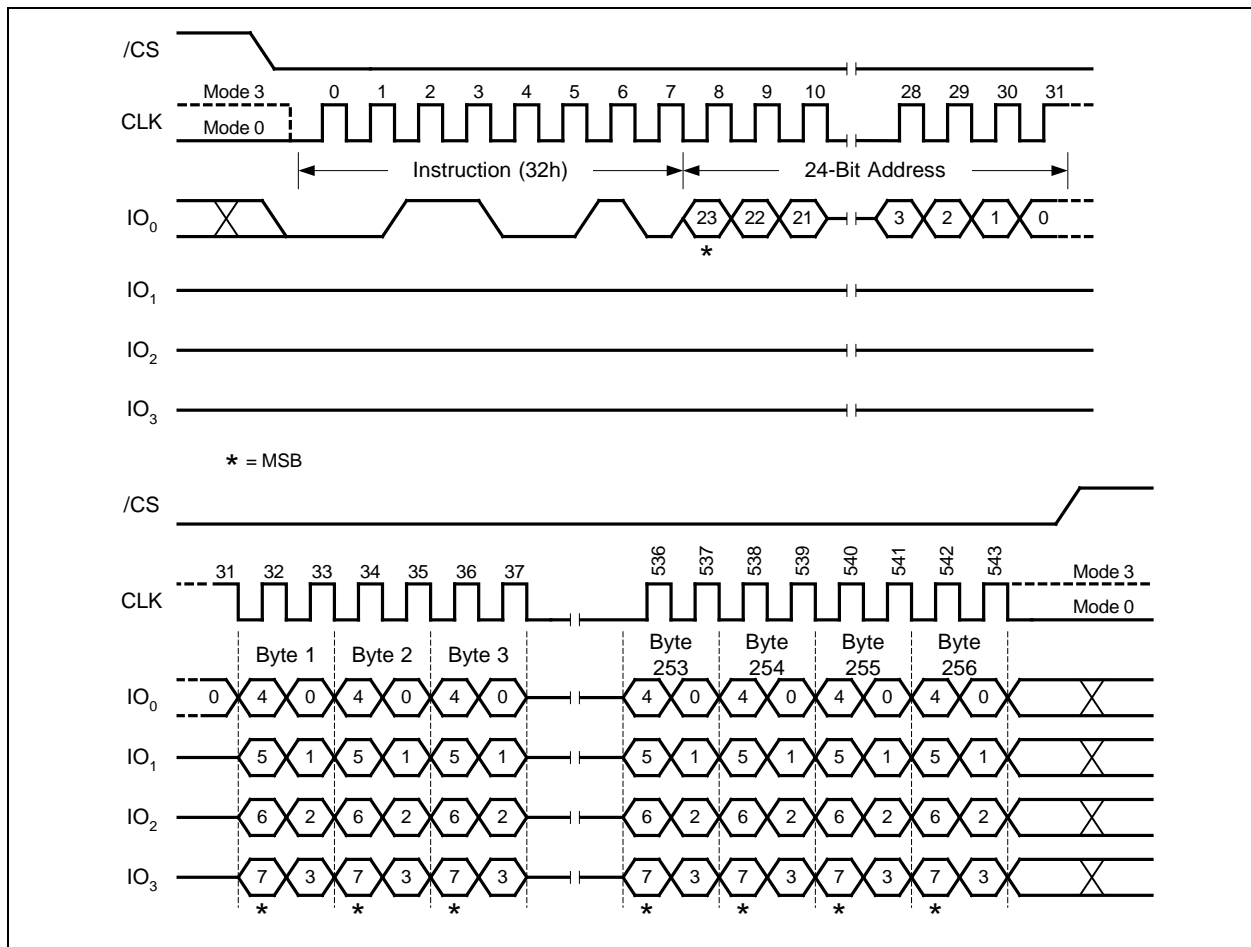

Figure 17. Quad Input Page Program Instruction
To use Quad Page Program the Quad Enable (QE) bit in Status Register-2 must be set to 1. A Write Enable instruction must be executed before the device will accept the Quad Page Program instruction (Status Register-1, WEL=1). The instruction is initiated by driving the /CS pin low then shifting the instruction code "32h" followed by a 24-bit address (A23-A0) and at least one data byte, into the IO pins. The /CS pin must be held low for the entire length of the instruction while data is being sent to the device. All other functions of Quad Page Program are identical to standard Page Program. The Quad Page Program instruction sequence is shown in Figure 17.